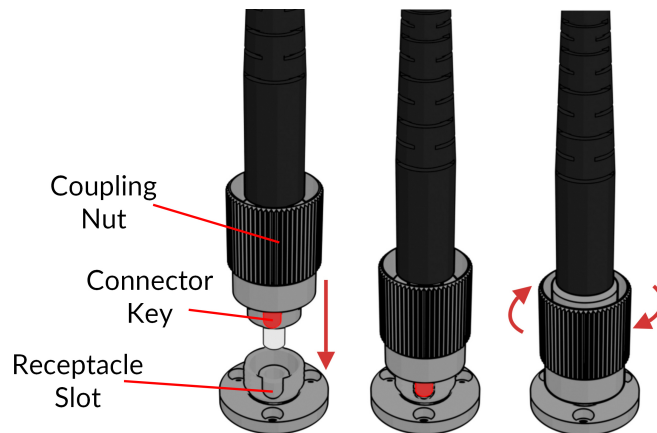

Figure 3.2: FC connector, Fiber Installation
- With an FC connector (Opsin ports), the **connector key must be oriented to enter within the receptacle slot** to ensure proper connection (Fig. 3.2).